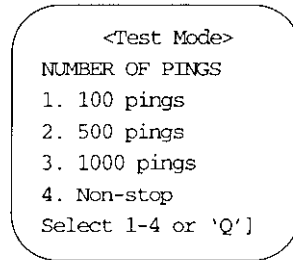

Figure D-15. Number Of Pings Screen
6. Select a counter for the number of test iterations in the *Number of Pings* screen shown in Figure D-15. Press the corresponding number to make the selection and advance to the next screen.